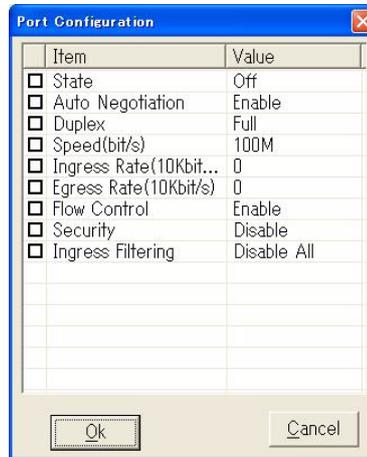

Fig. 4-4-36 LAN Port Configuration Dialog Box of FE
- 5 Select one port by click then click **Set** button or double-click a port. The **Port Configuration** dialog box shown in **Fig. 4-4-36** to **Fig. 4-4-39** appears: